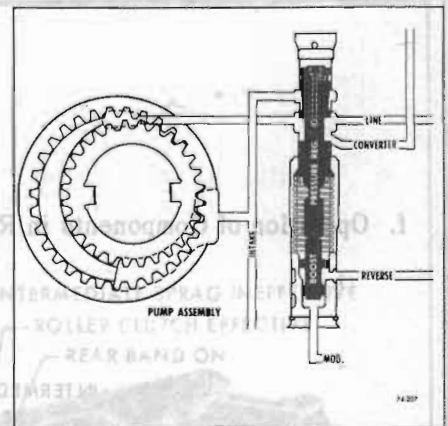

Figure 74-209—Pump and Pressure Regulator Valve
The transmission is automatically controlled by a hydraulic system. Hydraulic pressure is supplied by the transmission gear type oil pump, which is engine driven. Main line pressure is controlled by a pressure regulator valve train located in the pump. This regulator controls line pressure automatically, in response to a pressure signal from a modulator valve, in such a way that the torque requirements of the transmission are met and smooth shifts are obtained at all throttle openings. See Figure 74-209.
a. Regulates line pressure according to a fixed spring force and forces controlled by modulator and reverse pressure. See Figure 74-209.